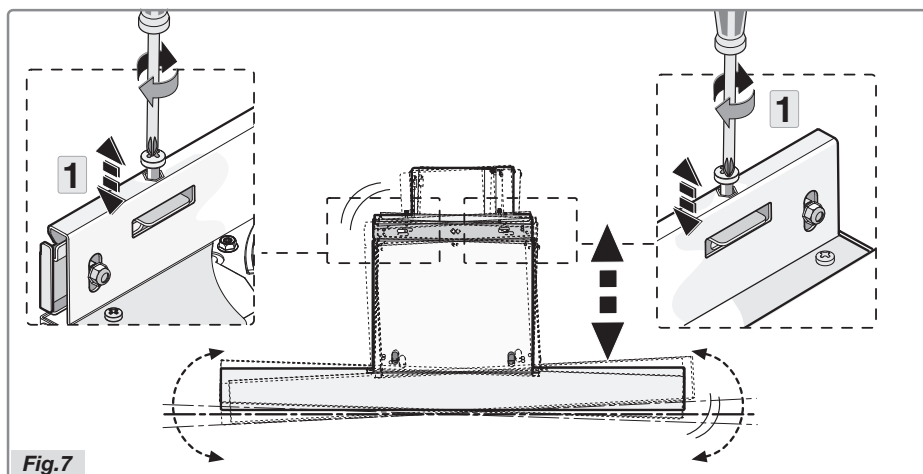

Fig.7
- Align the cooker hood horizontally using the two levelling screws (Figure 7 step 1).